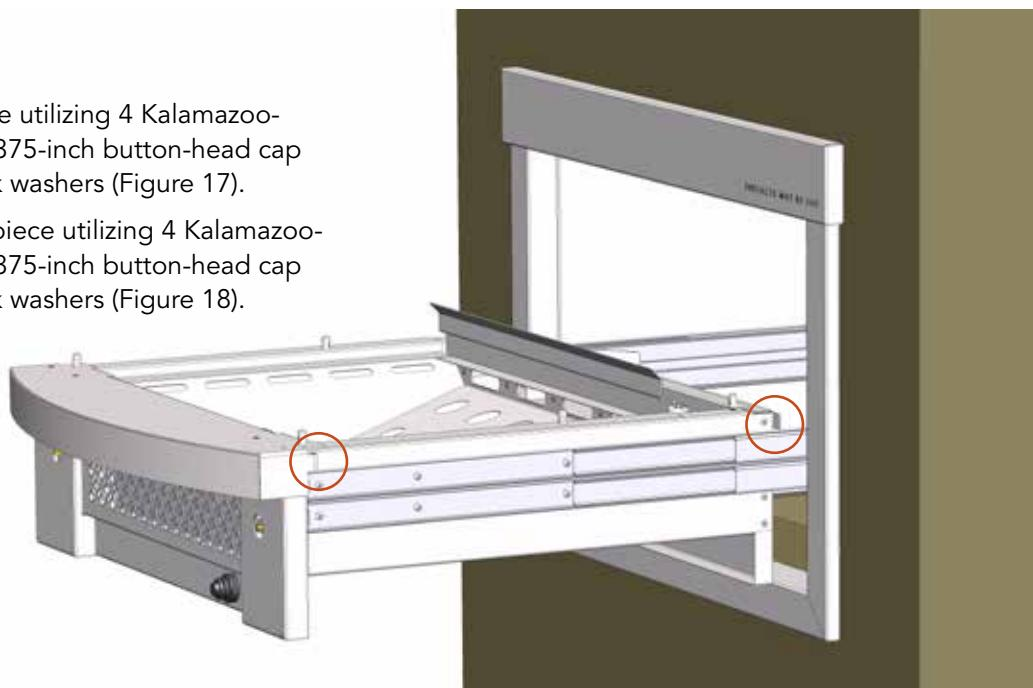

FIGURE 19
- 10.** Extend the heavy-duty slides fully out of the oven liner. With assistance from another person, place the oven base (Figure 5:F) on top of the extended slides (Figure 19), resting on the oven base tabs (Figure 5:H).